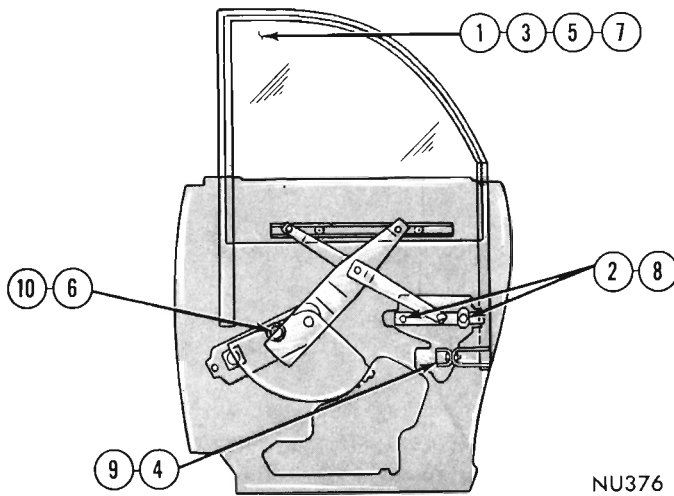

Fig. 44 - Quarter Window Adjustments - Sedan
(1) Raise glass to approximately 1/8 inch below window opening frame.
(2) Adjust regulator pivot bracket (Fig. 44) so gap between top of glass and window opening frame is constant. Tighten pivot bracket nuts.
(3) Run glass approximately 2/3 way down.
(4) Allow glass to set rear run retainer for in-out position and snug tighten lower bracket screw.
(5) Lower window until top of glass is even with or slightly below outer panel belt line weatherstrip.
(6) Position stop on regulator plate against stop on sector and snug tighten locknut.